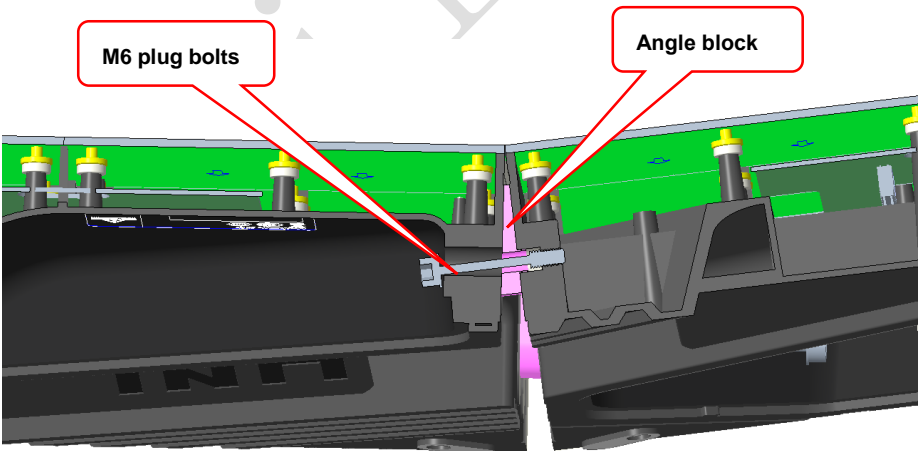

Figure 2-23 Internal drawing of left and right cabinet splicing
- 3) The left and right cabinets are fixed with M6 plug bolts, as shown in Fig. 2-23; the mounting plate and cabinet are fixed on the square pipe with hexagon socket bolts;